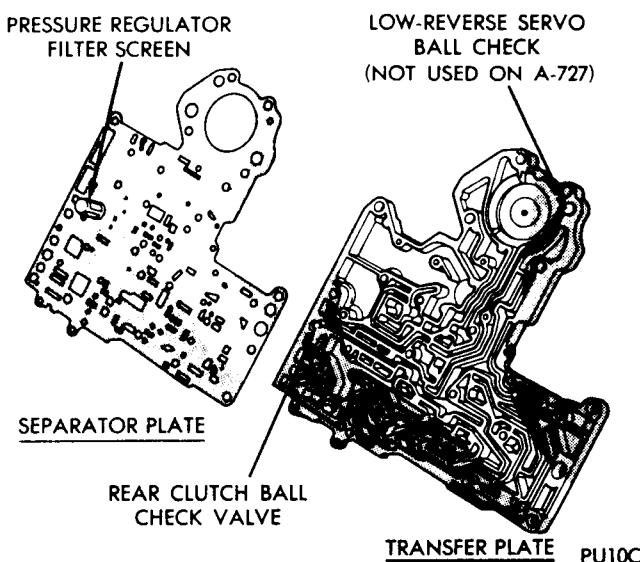

Fig. 4—Transfer Plate and Separator Plate
(1) Raise vehicle on a hoist.
(2) Loosen oil pan bolts, tap the pan to break it loose allowing fluid to drain, then remove oil pan.
(3) Loosen clamp bolts and remove throttle and shift levers from transmission.
(4) Pull wire connector from combination back-up lamp/neutral start switch.
(5) Unscrew and remove switch from transmission case (Fig. 4).
(6) Disconnect electronic lock-up solenoid wire from inside of wiring connector at rear of transmission case, if so equipped.
(7) Place a drain pan under transmission, then remove the ten hex-head valve body transmission case bolts. Hold valve body in position while removing the bolts.
(8) While lowering valve body down out of transmission case, pull it forward out of the case. If necessary, rotate propeller shaft to align parking gear and sprag to permit knob on end of parking control rod to pass the sprag.
(9) Remove accumulator piston and spring from transmission case. Inspect piston for nicks, scores, and wear. Inspect spring for distortion. Inspect rings for freedom in piston grooves and wear or breakage. Replace parts as required.
(9) Remove three screws from separator plate and separate parts for cleaning (Fig. 4).
(10) Remove rear clutch ball check, reverse servo ball check, and line pressure regulator valve screen from separator plate for cleaning (Fig. 4).